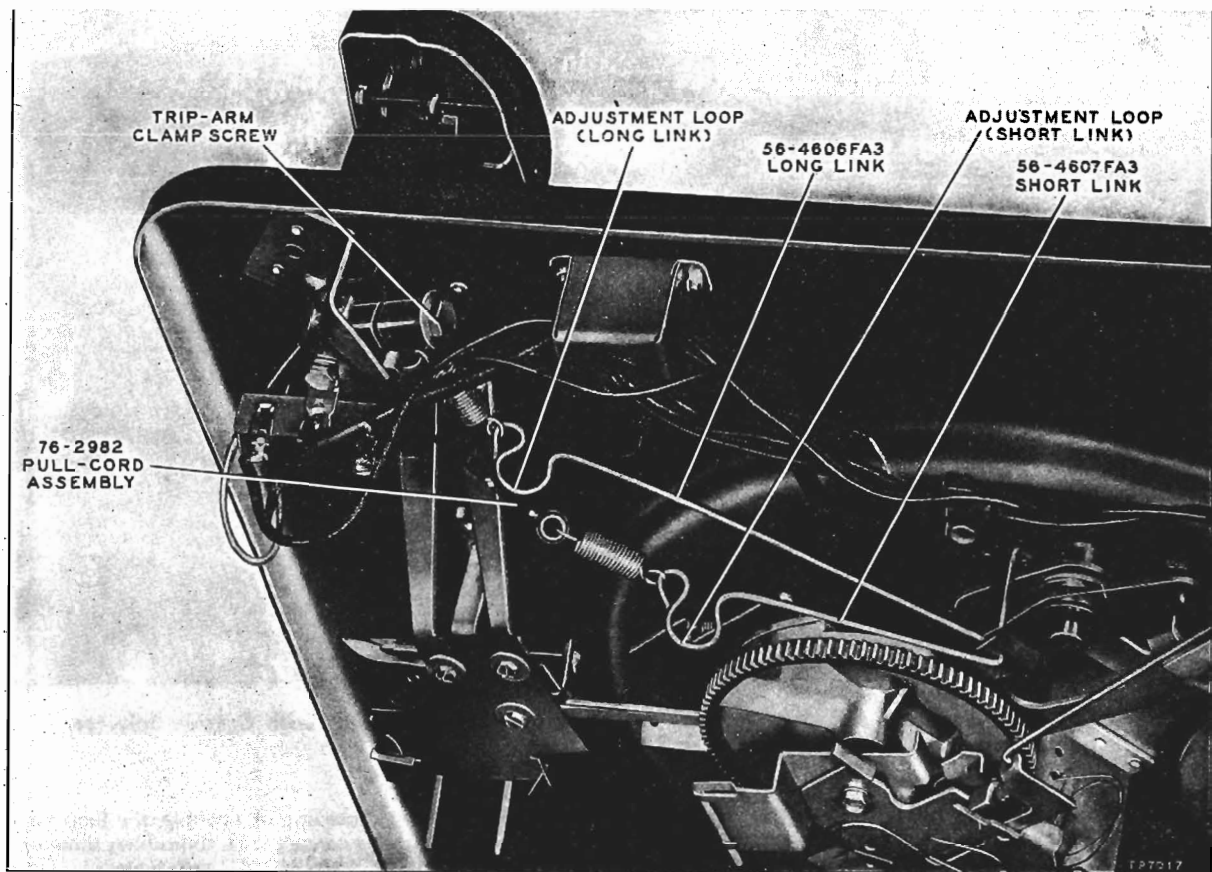
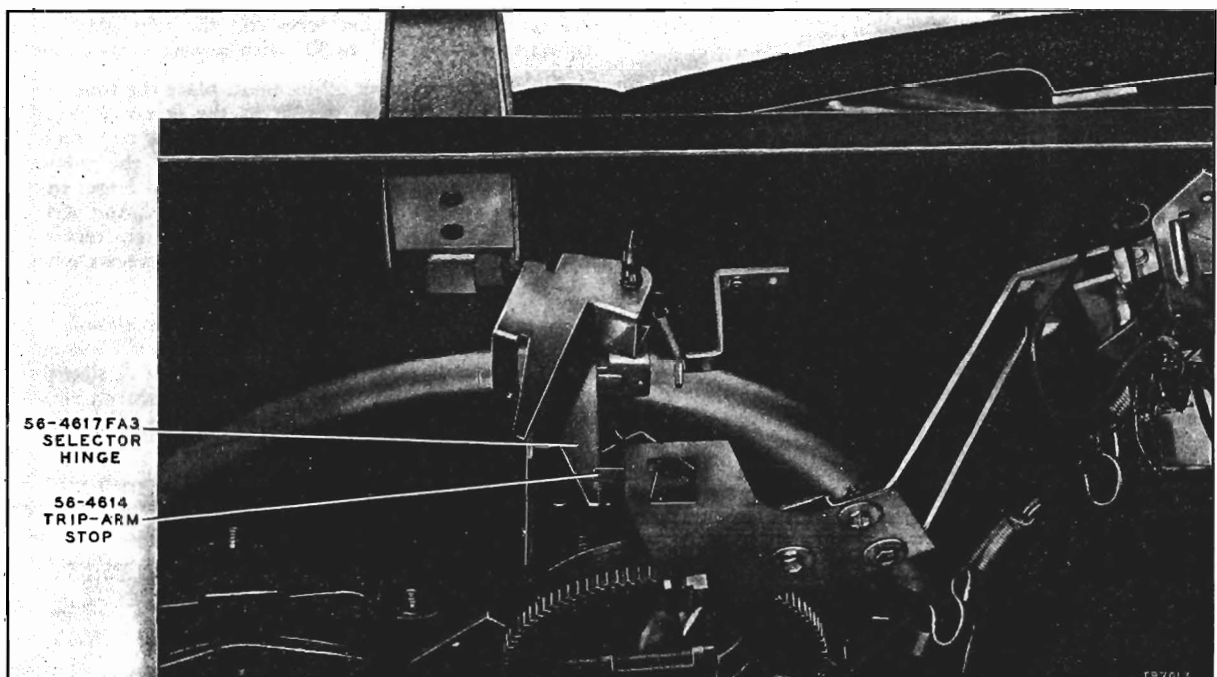
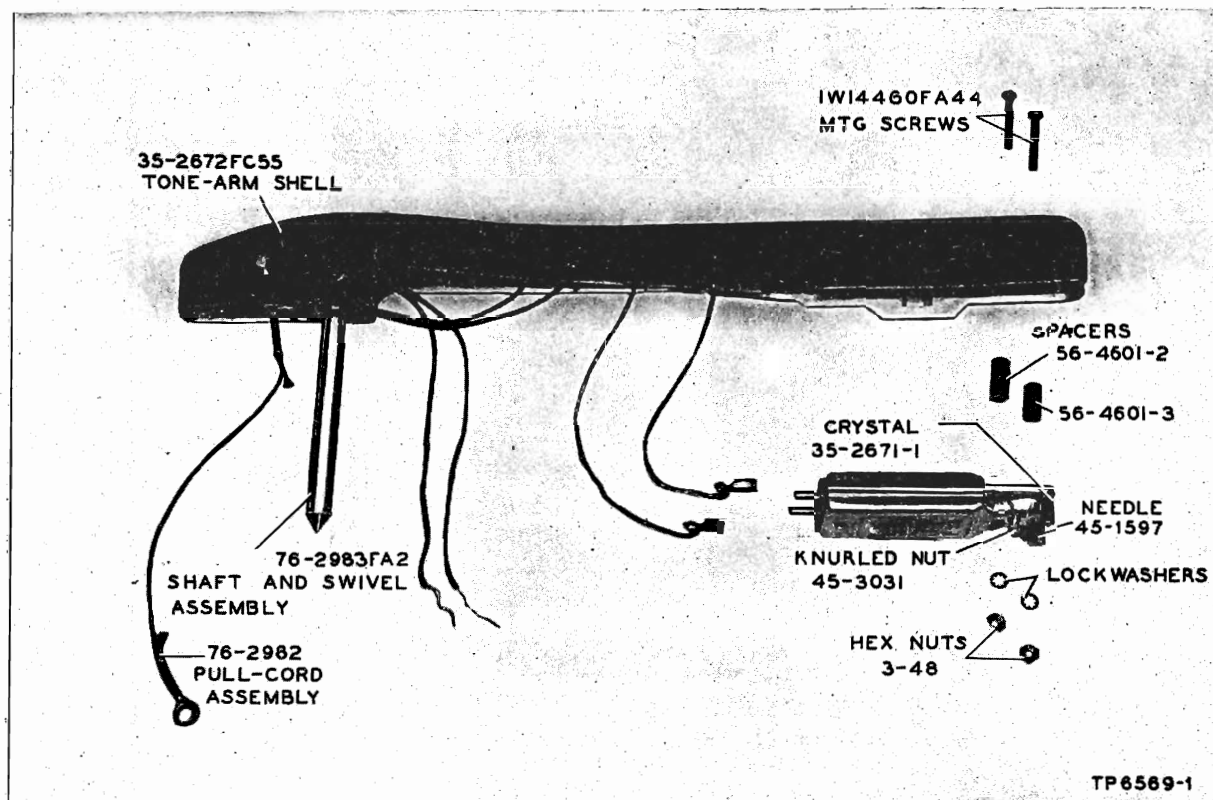

Figure 12. Loop Adjustments and Trip-Arm Clamp Screw
Figure 13. 10" Indexing Adjustment
Figure 22. Record-Changer Tone-Arm Assembly, Part No. 35-2663-2
Loosen the clamp screw on the trip arm (figure 12). Hold the tone arm (steady) $\frac{1}{8}$ " in from the edge of the record, and set the trip arm so that the trip-arm stop is in contact with the selector hinge (Part No. 56-4617FA3). See figure 13.
For the vertical adjustment, start with the changer out of cycle. Push the REJ.—AUT.—MAN. control to REJ., and rotate the turntable, by hand, three-quarters of a revolution; this setting can be obtained more accurately by making a mark on the turntable to coincide with some starting point. At the three-quarter-revolution point, the leading edge of the cam surface is approximately $\frac{1}{4}$ " from the end of the lift actuator lever, Part No. 76-4193; this is the lower actuator lever, shown in figure 17. Adjust the wire loop of the short link, cord, and spring assembly (figure 12), attached to the tone-arm lift pin, by squeezing or opening the loop until the tone-arm lift pin makes contact with the lower ear of the tone-arm swivel.
For the horizontal adjustment, rotate the turntable another three-quarters revolution from the point at which the vertical adjustment was made. At this point, the leading edge of the cam surface is approximately $\frac{1}{4}$ " from the end of the horizontal-return actuator lever; this is the upper actuator lever, Part No. 76-2987, shown in figure 18. Adjust the wire loop of the long link and spring assembly (figure 12), attached
- Drop cartridge below tone arm sufficiently to allow removal of the two clips from cartridge, as shown in figure 22. If pickup leads are shielded, unsolder shield.
- Loosen clamp screw which holds trip arm to tone-arm shaft, Part No. 76-2983FA2 (figure 12). Lift out tone arm and shaft. The tone-arm assembly is shown in figure 22.